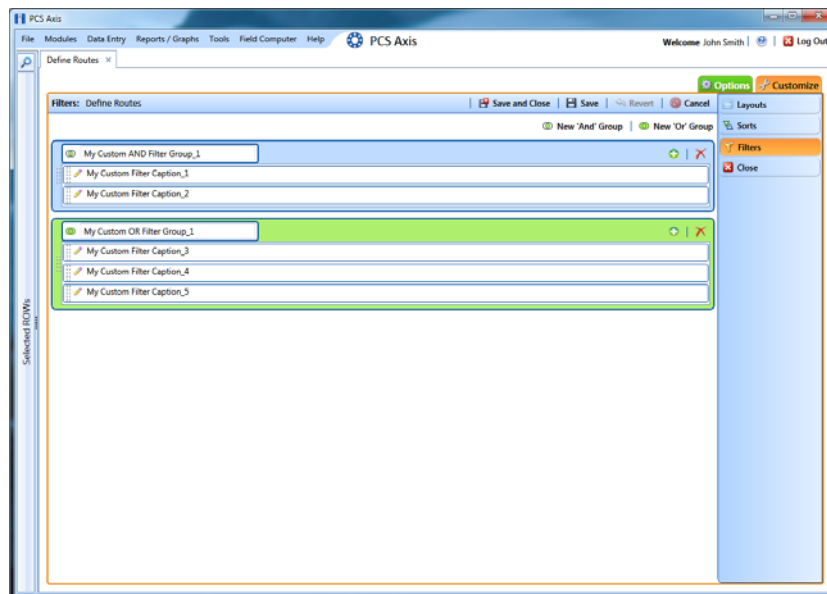

Figure 7-54. Filters
- 4 Click the edit icon  to display a filter's property settings (Figure 7-54).